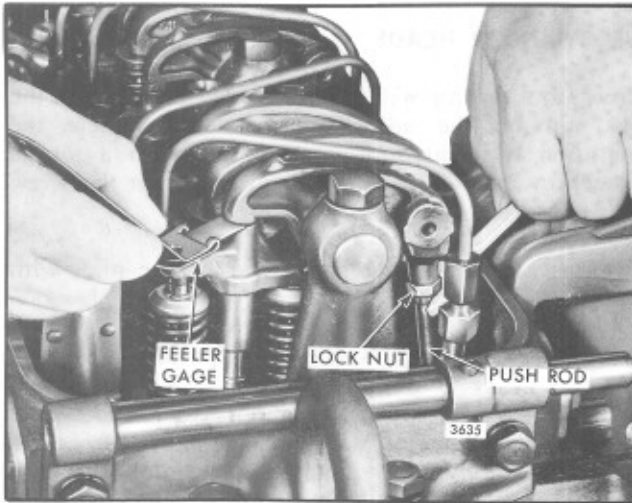

Fig. 3 - Adjusting Valve Clearance
5. Place a .016" feeler gage, J 9708-01, between the valve bridge and the valve rocker arm pallet (Fig. 3). Adjust the push rod to obtain a smooth "pull" on the feeler gage.